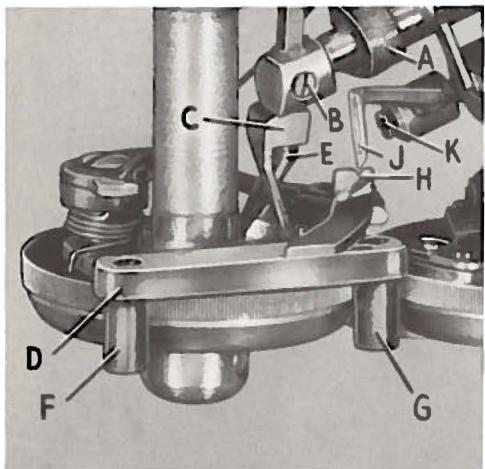

Fig. 10
Set the looper so its point is directly over the center line of the needle and is flush with the back edge of rear prong (B) of gauge. These two settings are made by loosening the screw on the looper bar collar (A, Fig. 10) and moving looper holder as required.
Looper needle guard (C, Fig. 10) can now be swung into approximate operating position. Keep its holding screw loose.
The operating location of the back looper is set according to gauge No. 21227 CD (D, Fig. 10).